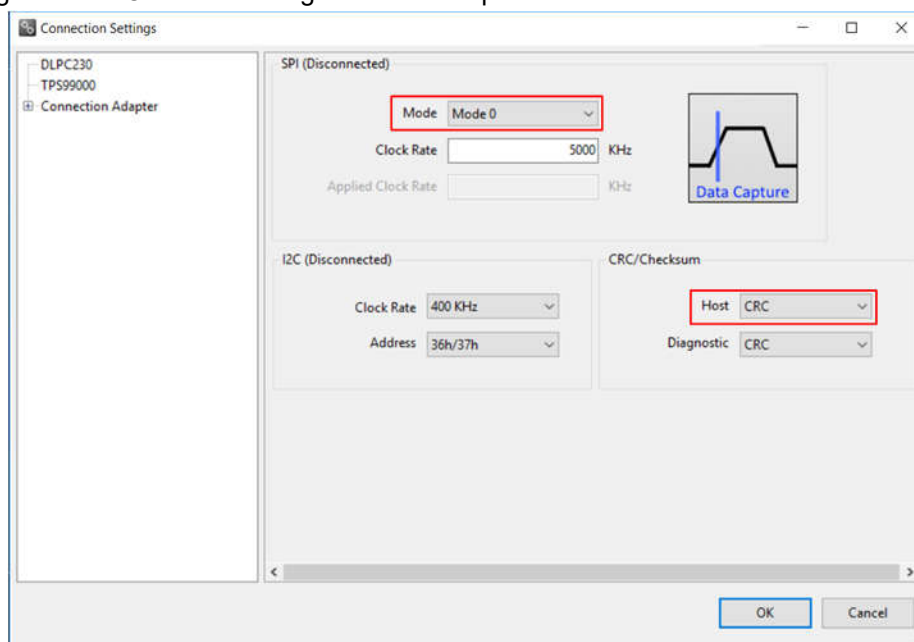

Figure 2-3. DLPC230-Q1 Automotive Control Program Communication Settings
3. Select "Connection Settings" to confirm the SPI configuration shown in Figure 2-3 matches the Controller PCB switch settings described in Table 1-3. Specifically, SPI mode and CRC/Checksum may vary based on switch settings. Press "OK" once configuration is complete.